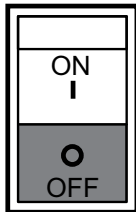

Figure 13. Main Circuit Breaker (OFF)
2. **NEVER** start the engine with the main circuit breaker in the **ON** position. Always place circuit breaker (Figure 13) in the **OFF** position before starting.